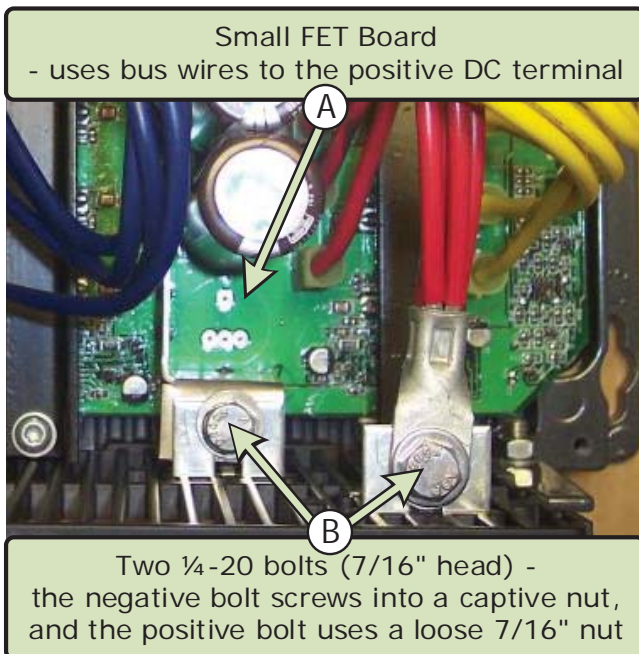

Figure 2, DC Terminal Plate to Small FET Board
3. Remove the two ¼-20 bolts (7/16" head) on the back of the DC terminal plate (see Figures 2 and 3, Item B).
Note: While unscrewing the ¼-20 bolts on the bus wires, (Figure 2, Item A) use a 7/16" wrench to hold the nut.
4. Connect the DC terminal plate to the DC busbars/bus wires using the two ¼-20 bolts (7/16" head). Refer to Figure 2 or 3, depending on the inverter's FET board. Torque these connections to 130 in-lbs.